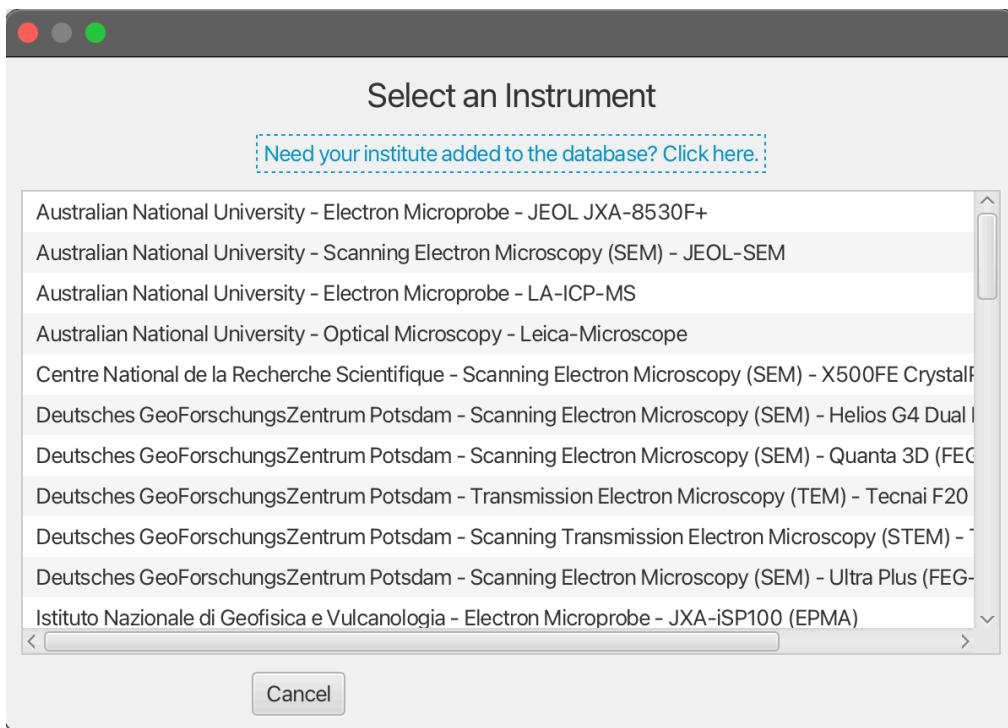

Figure 1: Screenshot of the **StraboMicro Select Instrument** modal with the PI request link.
1. During the 'Add New Sample' upload process within StraboMicro, a link to add a new institution to the catalog can be found in the 'Select Instrument' modal (Figure 1). Clicking the link generates an email request – see Section 5.1.3 for details.